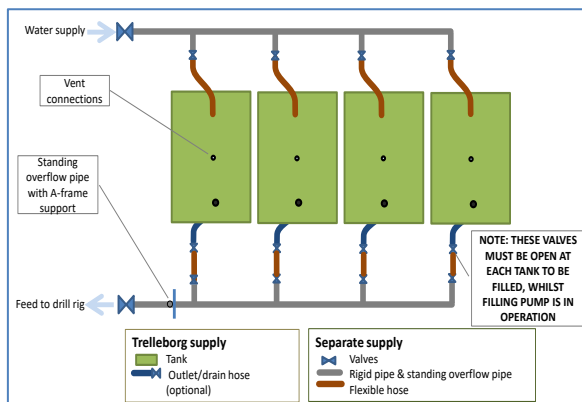

Figure 2 - Typical multi-tank schematic
- where spillage is permissible, through use of an open ended stand pipe of the appropriate height connected to the drain connection, to act as an overflow relief (see Figure 2).